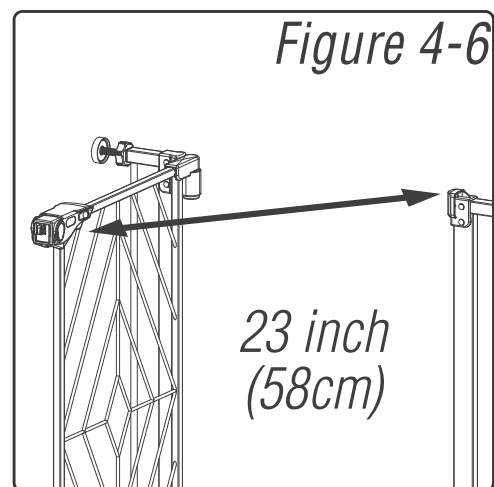

Figure 4-6
**NOTE** When the gate opening width is greater than **23 inch (58cm)**, the gate will be normally open. (Figure 4-6)